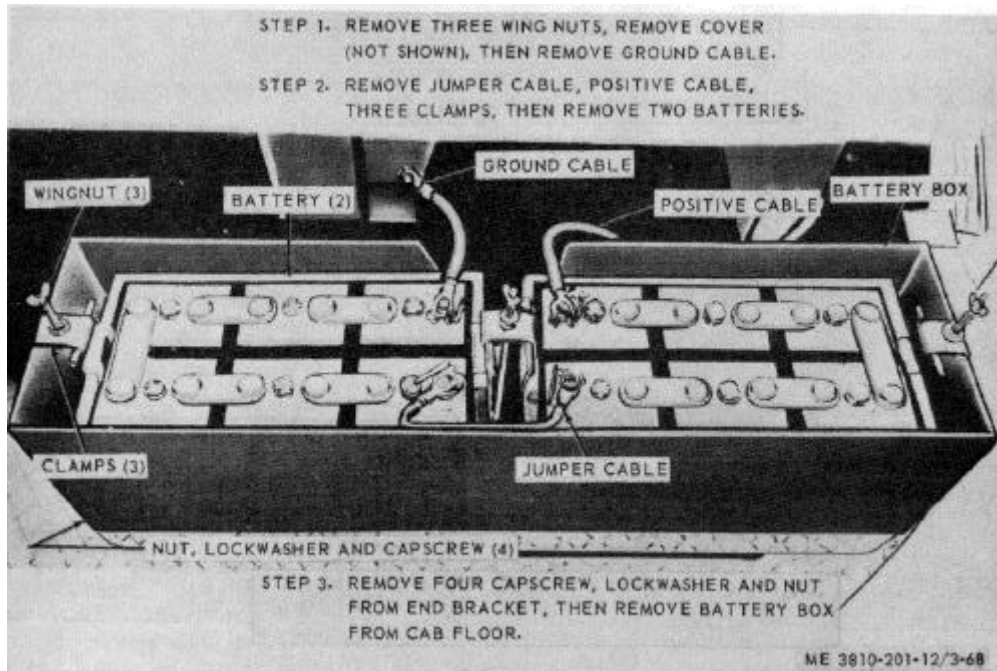

Figure 3-68. Battery and Battery Box removal and installation (nonwinterized units).
(a) Refer to figure 3-68, perform steps 1 and 2, and remove batteries.
(b) Refer to figure 3-68, perform step 3, and remove battery box.
- STEP 1. DISENGAGE LATCH (2), THEN REMOVE COVER FROM BATTERY BOX.
- STEP 2. REMOVE BATTERIES (FIG. 3-68).
- STEP 3. REMOVE HOSE CLAMP (2) AND DISCONNECT AIR HOSE FROM BOX.